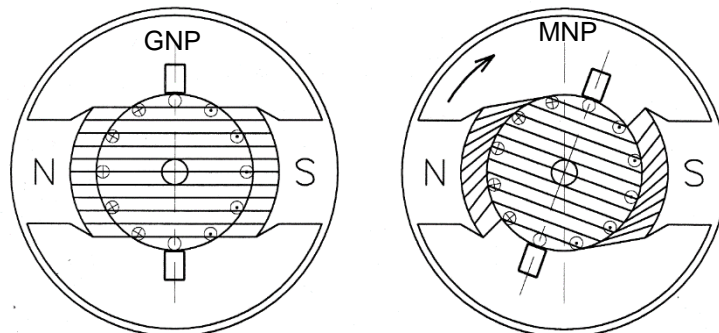

Figure 44
30. In practice it is not usual to change the speed of the machine or the number of conductors. The most common method is to alter the field strength by inserting a variable resistor in series with the shunt field, Figure 44.